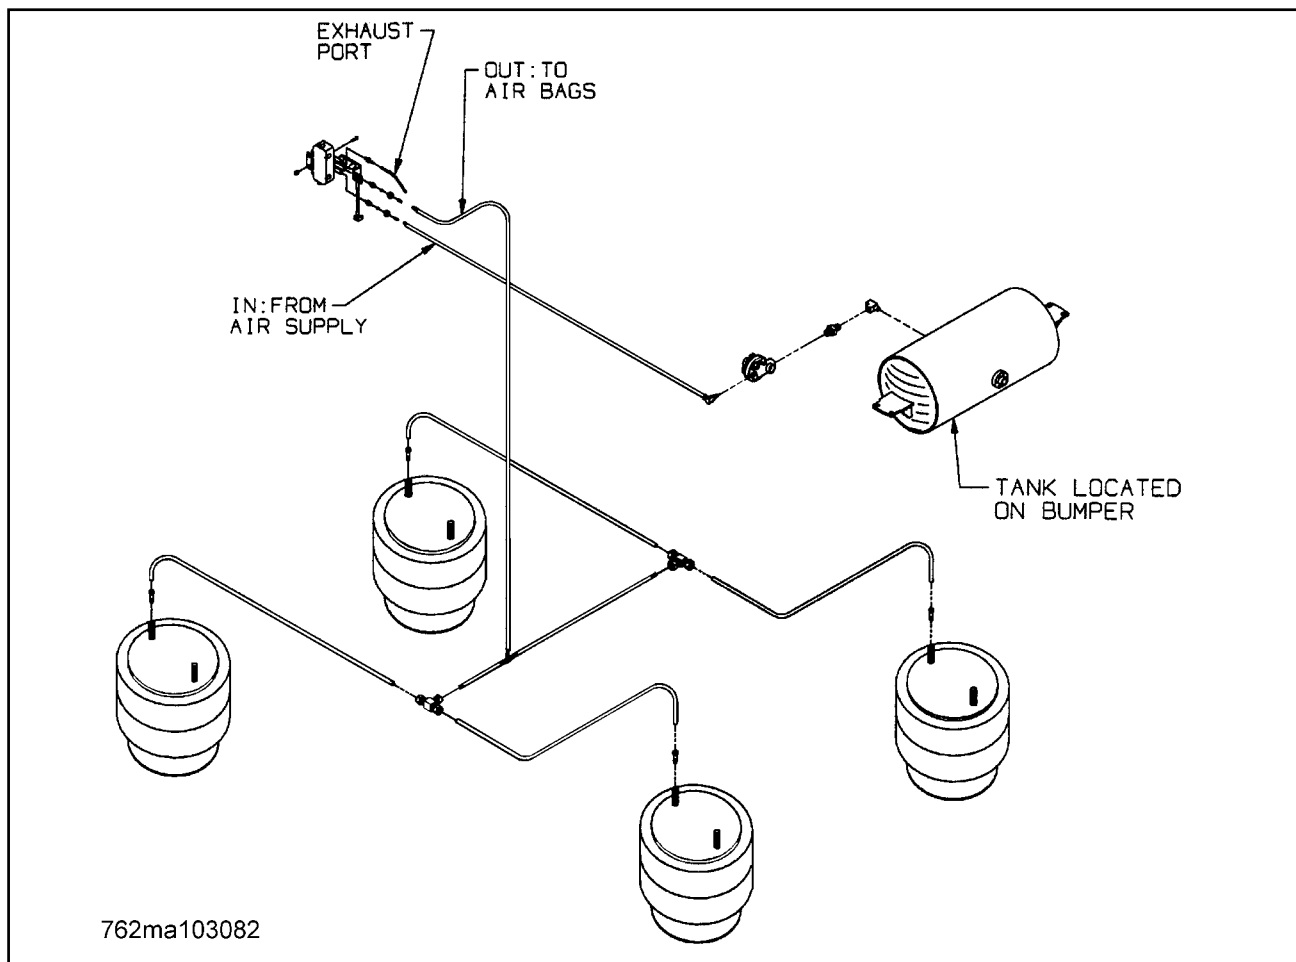

Figure 4-5 Tandem Axle Air Ride Suspension System
- See Figures 4-5 and 4-7 for Tandem and Triple Axle Air Ride Suspension drawings.